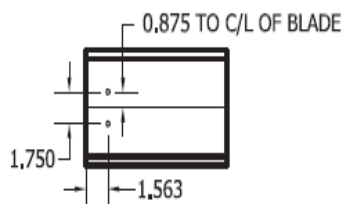

Figure 1: Bracket Mounting Hole Location
2. Determine the location where the blade jackshaft will be mounted (first or third blade). Note pre-punched holes in the jamb. Drill holes in blade according to **Figure 1**.
3. Screw or bolt blade bracket to the blade. Be sure that the blade bracket is centered on the blade (Figure 1). See table for drill diameter.